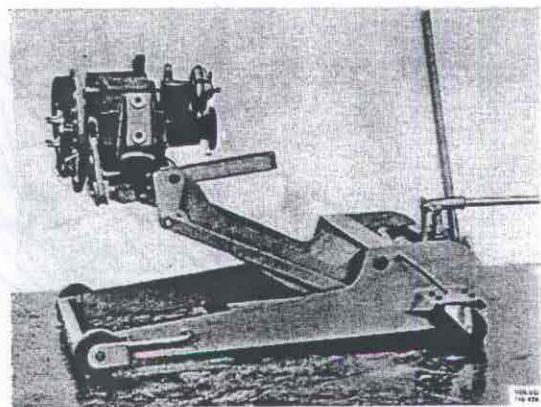

Fig. 43-210. Gearbox placed on jack
1. Place the auxiliary gearbox on the gearbox jack, Fig. 43-210. Check that the sleeve for the gearbox output shaft can easily be pushed back and forth in the auxiliary gearbox gear cluster. If the sleeve is stiff, the lands must be ground with carborundum. Remove the sleeve.